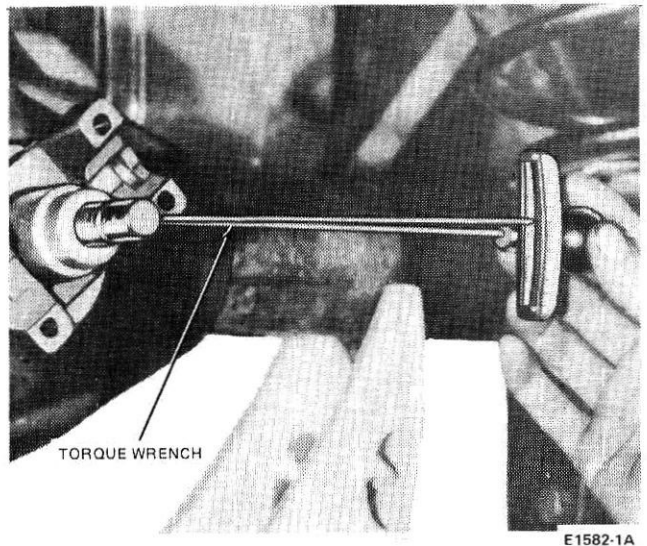

FIG. 31 Checking Pinion Bearing Preload
9. Adjust the bearing preload to specification. Measure the preload with the tool shown in Fig. 31.